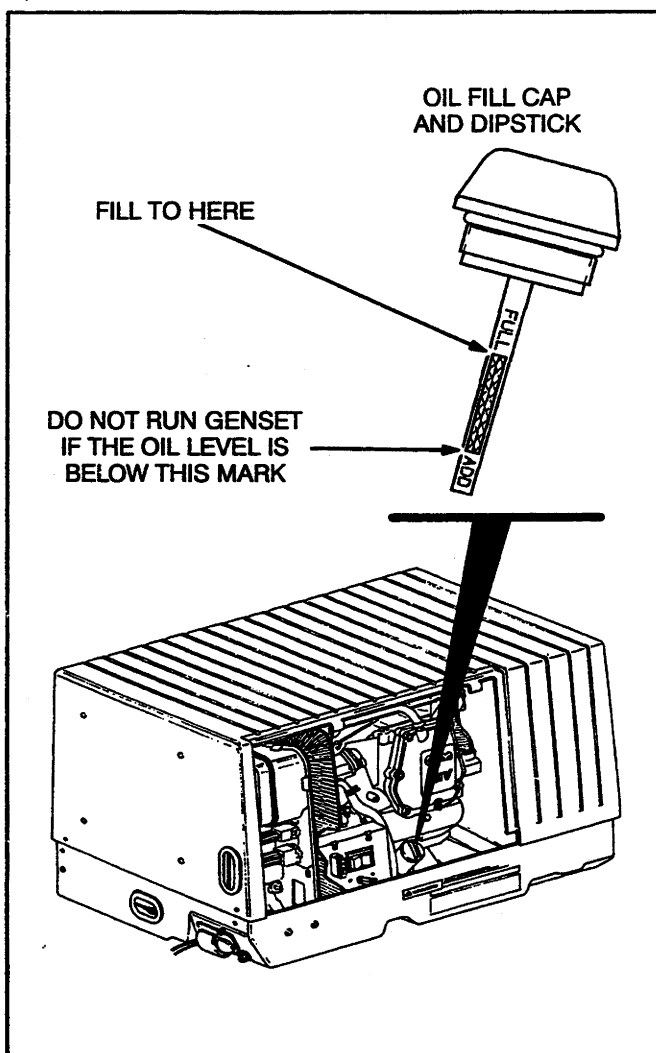

FIGURE 7. OIL LEVEL CHECK
1. Remove the oil fill cap/dipstick (Figure 7) and wipe it clean.
2. Remove the oil fill cap (Figure 7).